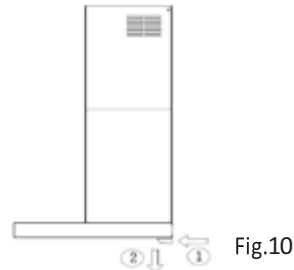

Fig.10
- Oil collector removing reference drawing steps (Fig.10)